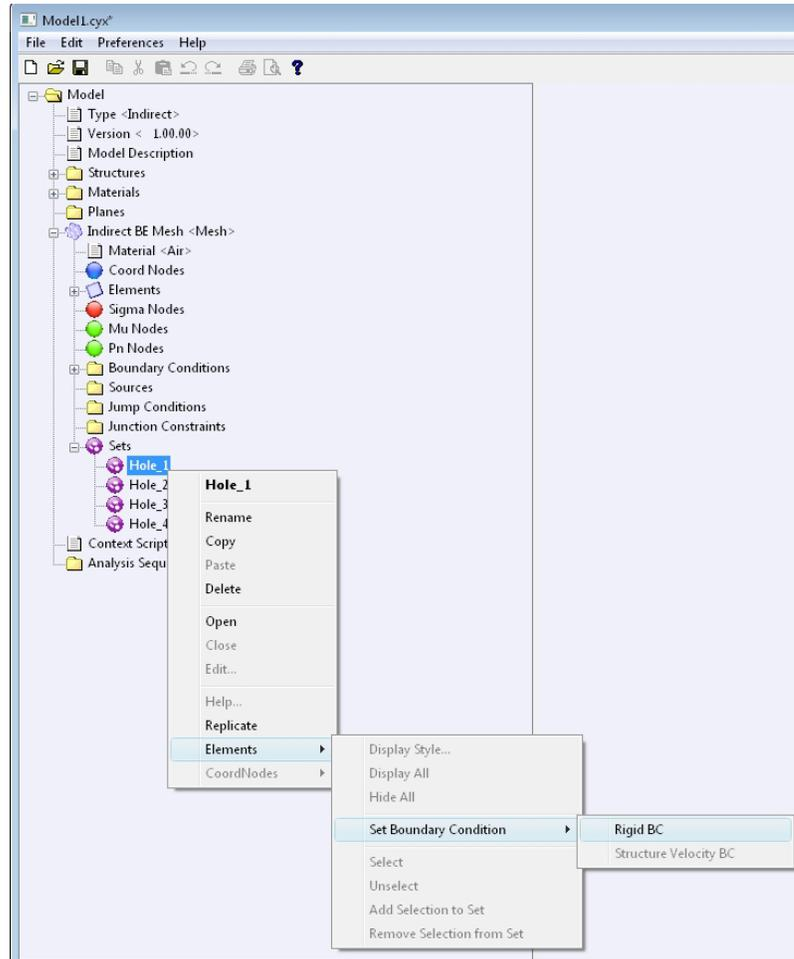

Figure A.43 Apply boundary conditions through sets.
- Right-click on **Holes\_1** and select: **Elements** → **Set Boundary Condition** → **Rigid BC** as shown in Figure A.43.